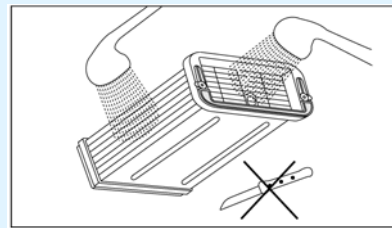

Figure 8.
7. Clean the heat exchanger thoroughly with water. Allow the water to run freely through the heat exchanger. See Figure 8.